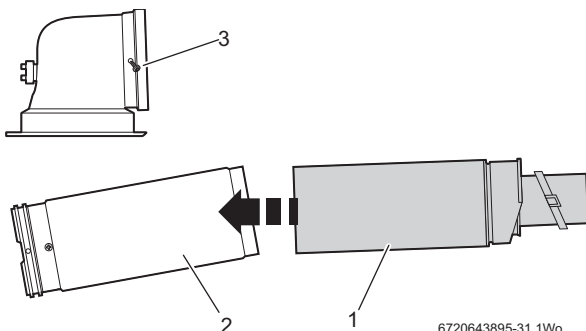

Fig. 41 Reducing the standard terminal
- ▶ If the required length is less than 350mm the standard telescopic flue can be modified, refer to fig. 41.